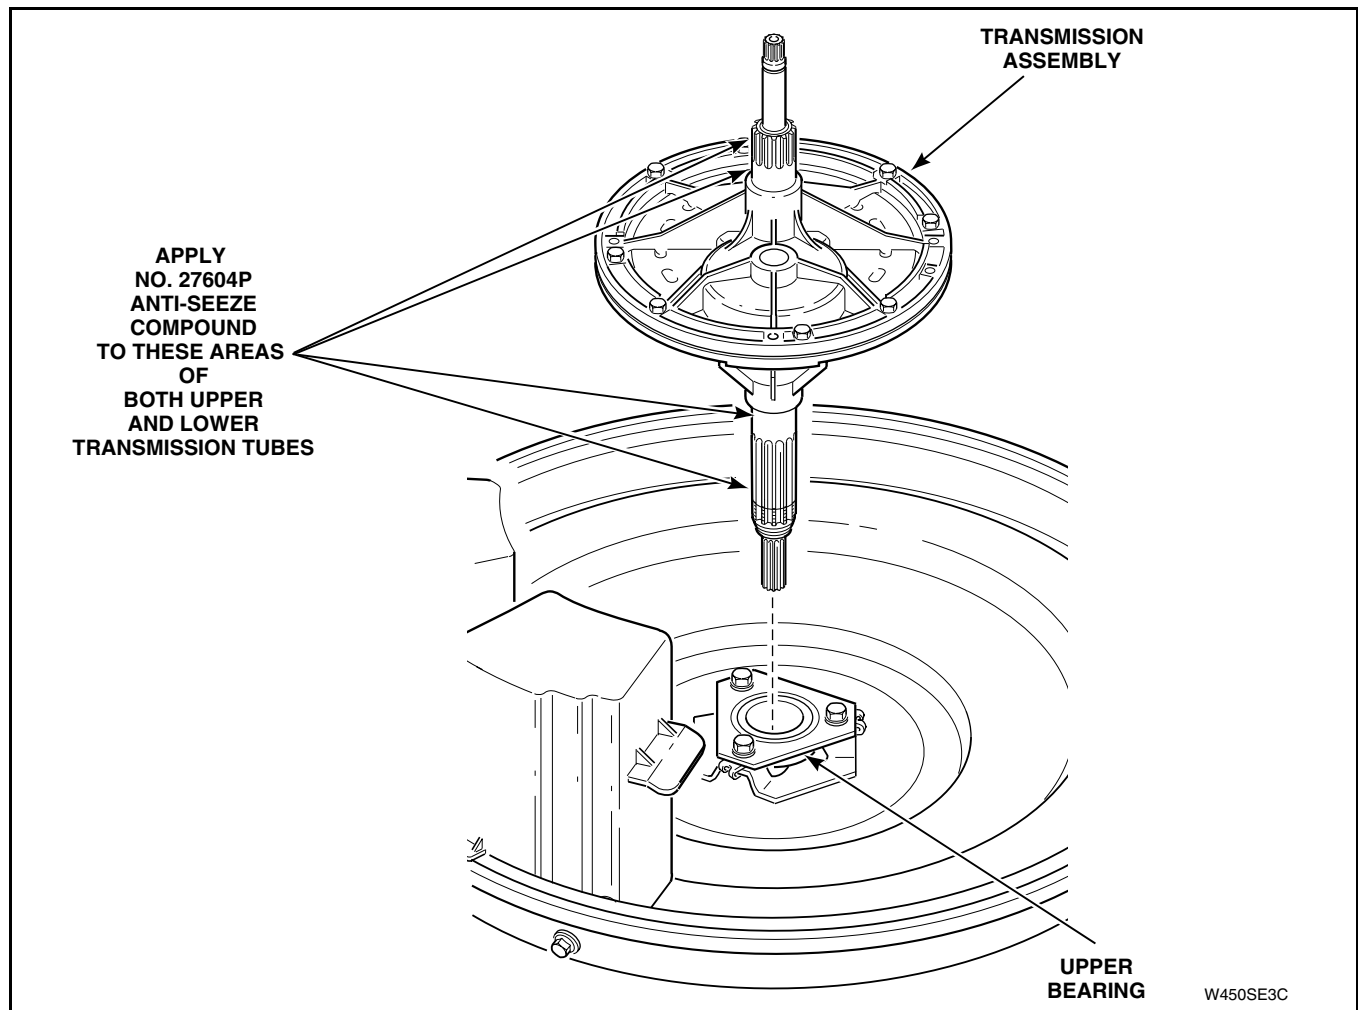

Figure 57
NOTE: When installing lower bearing, weldment assembly and brake assembly, apply No. 27604P Anti-Seeze Compound to area of transmission tube that will be contacting bearing, washtub hub and brake assembly. Refer to *Figure 57*.
IMPORTANT: When replacing or reinstalling transmission assembly, it is important that No. 27604P Anti-Seeze Compound be applied to area of the transmission tubes where they will be contacting upper and lower bearings. Refer to *Figure 57*.
- q. Apply Anti-Seeze Compound, No. 27604P, to smooth area of both transmission tubes that will be contacting upper and lower bearings. Refer to *Figure 57*.